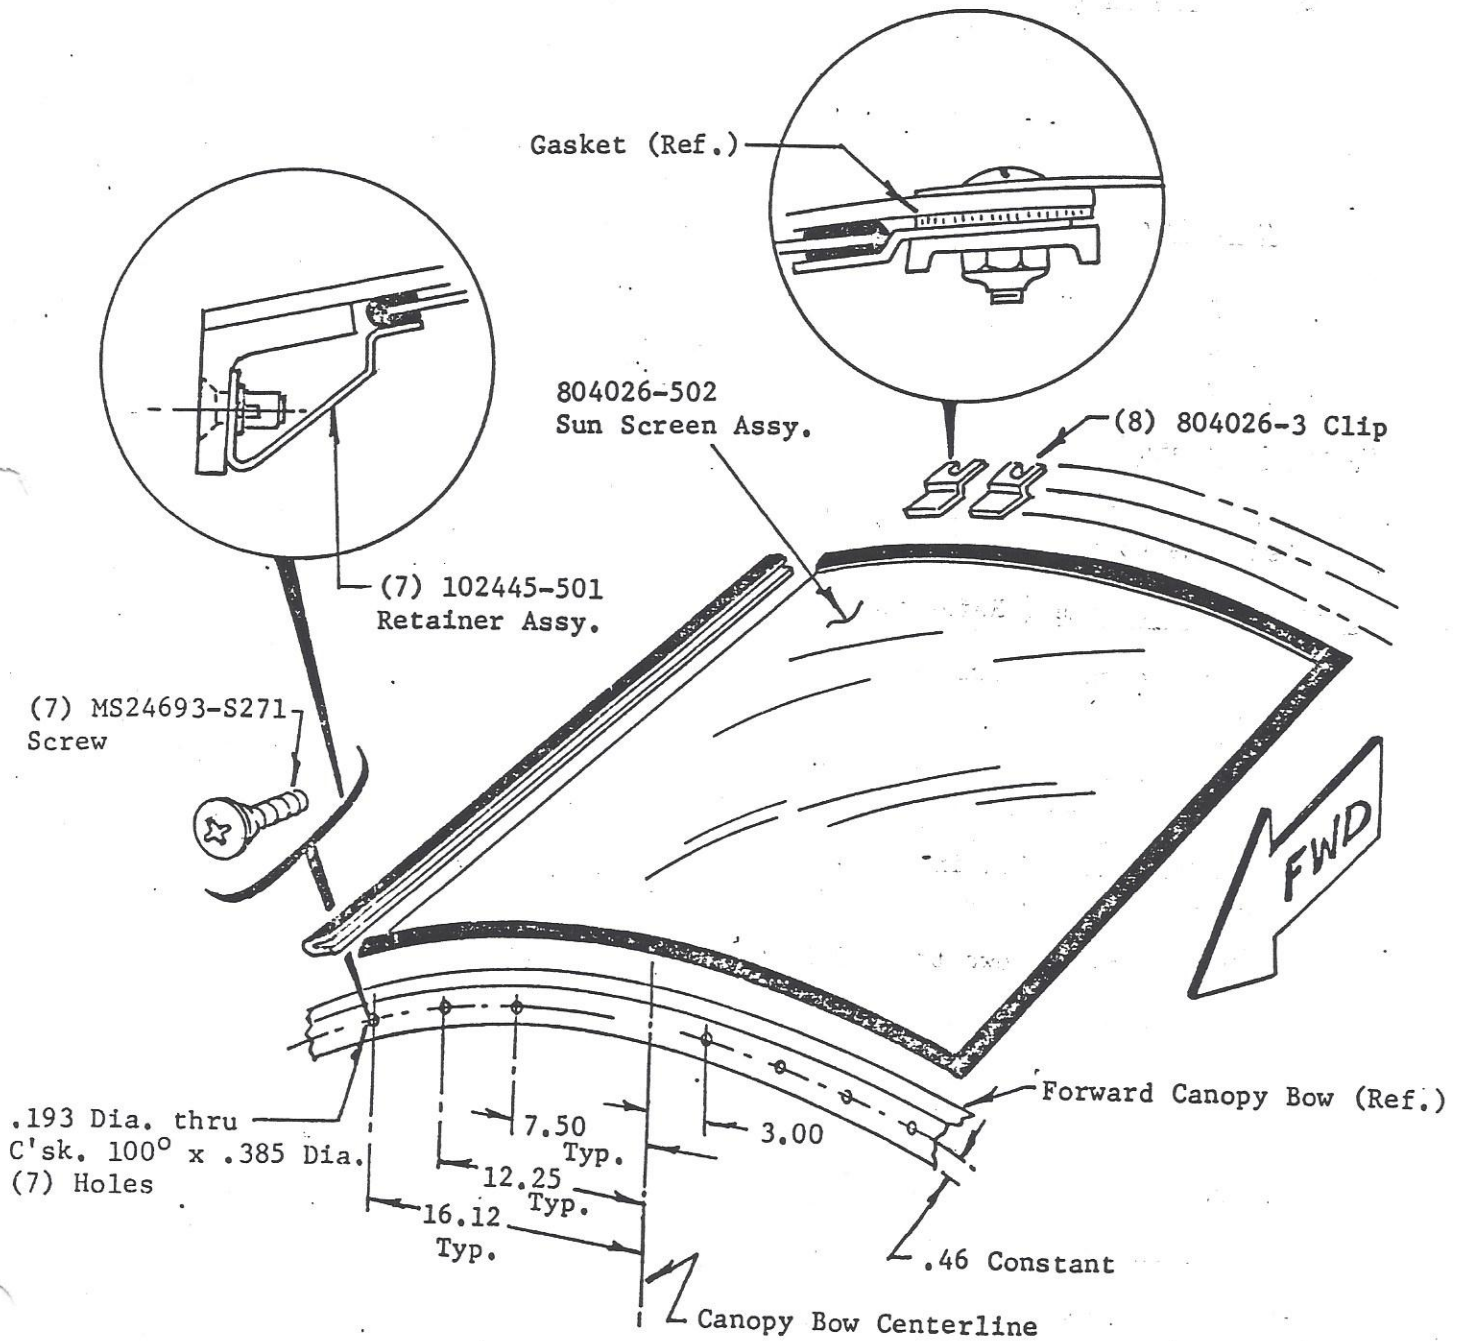

Figure 1. Sun Screen Assembly and Installation
Installation Instructions (Refer to Figure 1)
4. Layout and drill (7) .193 dia. holes in the forward canopy bow, as shown in Figure 1. Countersink (100° X .385 dia.) these holes on the forward face of the canopy bow.